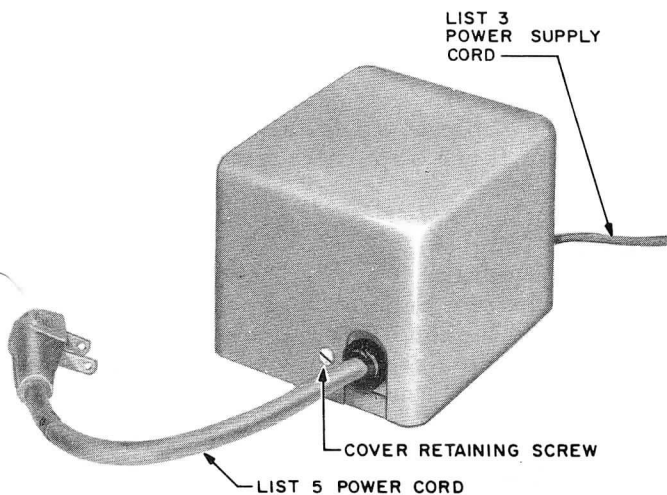

Fig. 3 - Power Supply
2.03 Cord connections are required between the telephone set and the Rapidial and between the Rapidial and the low-voltage power supply. The power supply (List 2) is shown in Fig. 3 and 4.
4.07 Power supply may be mounted with three No. 6 or 8 wood screws. Two retaining screws hold cover in position (Fig. 3). Power supply cord is fed through cutout in cover and secured under cord clamp.